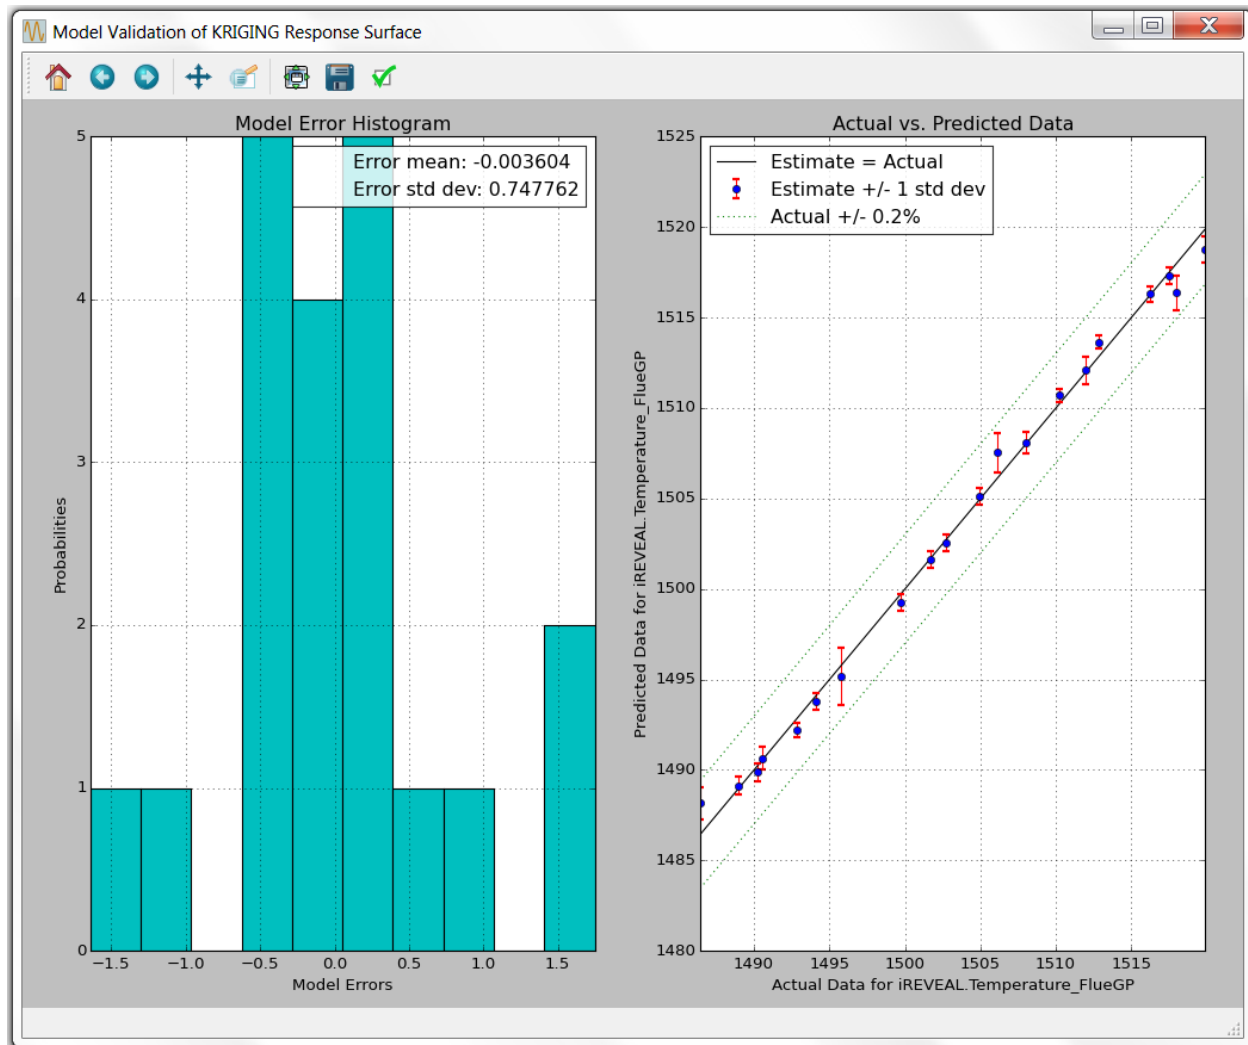

Figure 15: Visualize Response Surface: Validation Plot
1. The results after clicking “Validate” as shown in Figure 15.